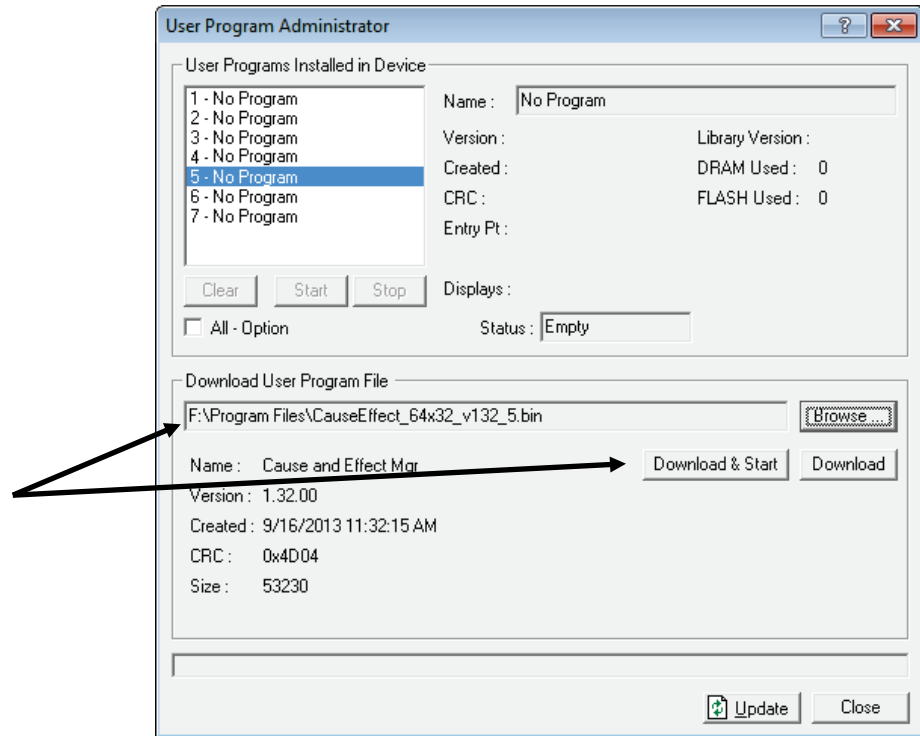

Figure 5. User Program Administrator
6. Click **Open** to select the program file. The User Program Administrator screen displays. As shown in *Figure 5*, note that the Download User Program File frame identifies the selected program and that the **Download & Start** button is active: